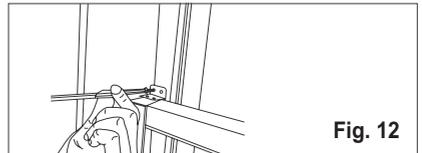

Fig. 12
6. To secure lower sash in place, attach right angle Sash lock\* with 12.7mm screw as shown (Fig. 12).